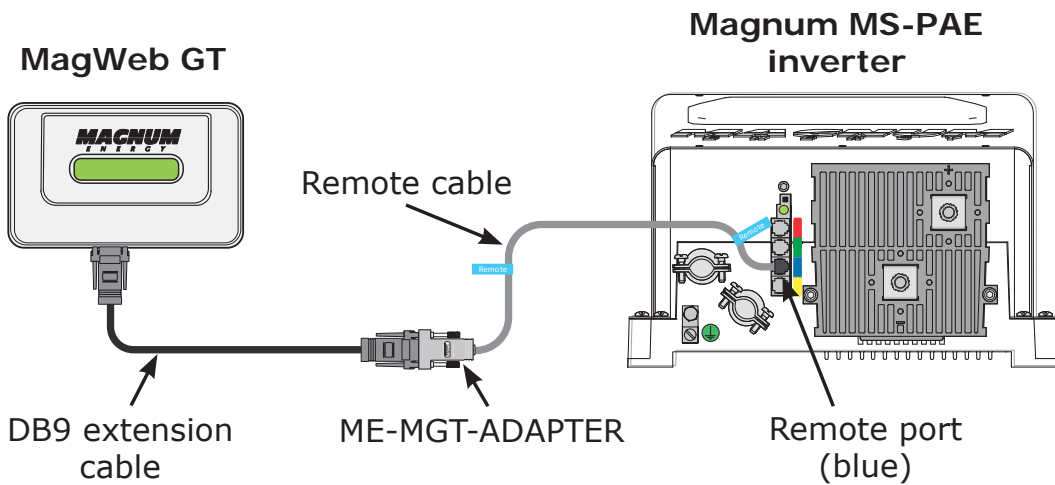

Figure 3, Connecting the MagWeb GT to a Magnum Inverter
4. Plug the other end of the remote cable into the *Remote port* (blue) on the Magnum MS-PAE inverter (Figure 3).